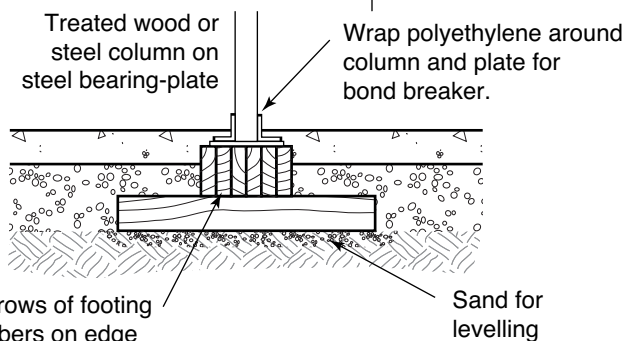

FIGURE 45
- ◆ For interior columns, place a steel plate on a crib of two layers of PWF members that are positioned on edge on undisturbed soil or on a levelling bed of sand (see Figure 45). Determine correct sizes from CSA-approved design tables, based on the number of storeys, beam span, and building width.